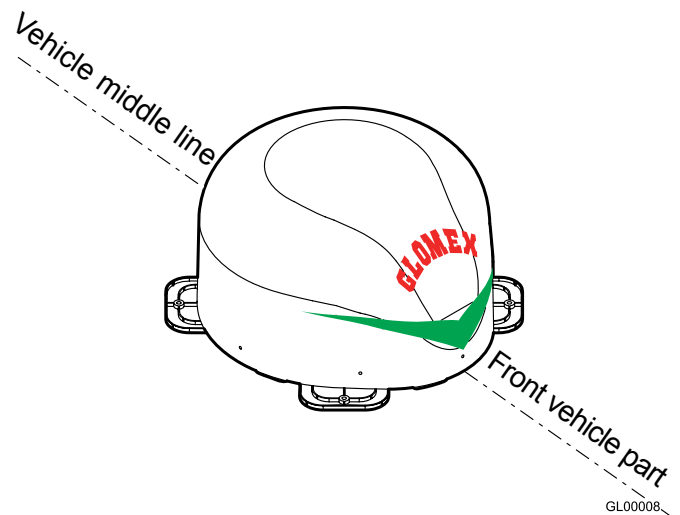

Fig. 8
5. Place the antenna in the appropriate position on the vehicle middle line, respecting the installation direction indicated in **Fig. 8** and apply a good pressure on the radome sides to make the plates correctly adhere to the mounting surface. Wait for the silicone to solidify (time varies according to outer temperature).
For a correct assembly, respect the installation direction indicated in Fig. 8.